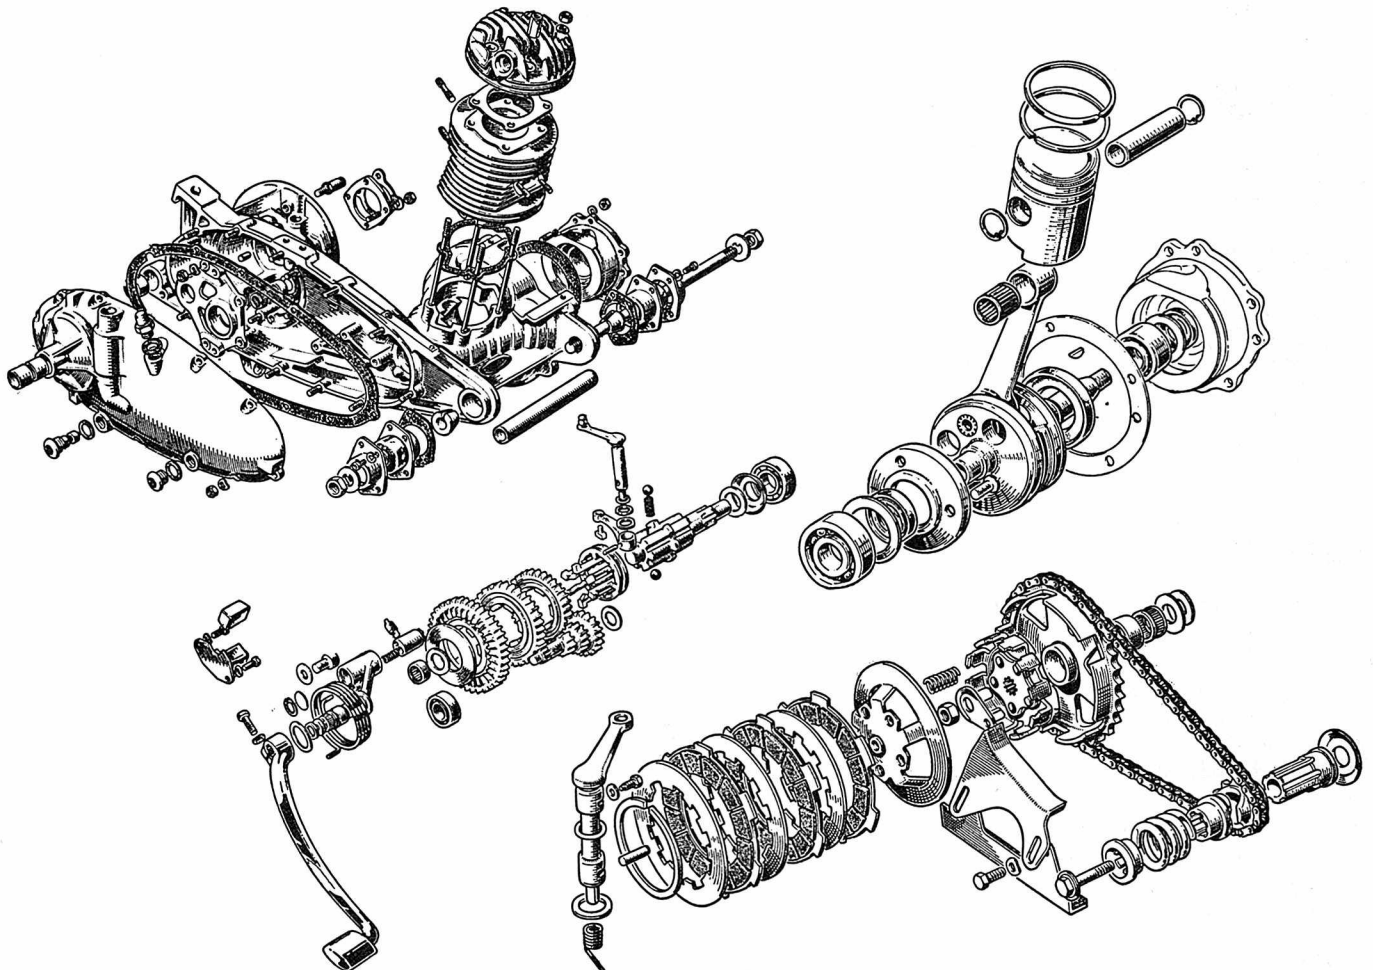

Fig. LM1-11—Exploded view of Cento three speed transmission, clutch and engine assembly.
**GEAR BOX.** The transmission used in Cento model is three speed, all others are four speeds. Basic information is similar. Refer to Fig. LM1-11 for exploded view of Cento Unit.